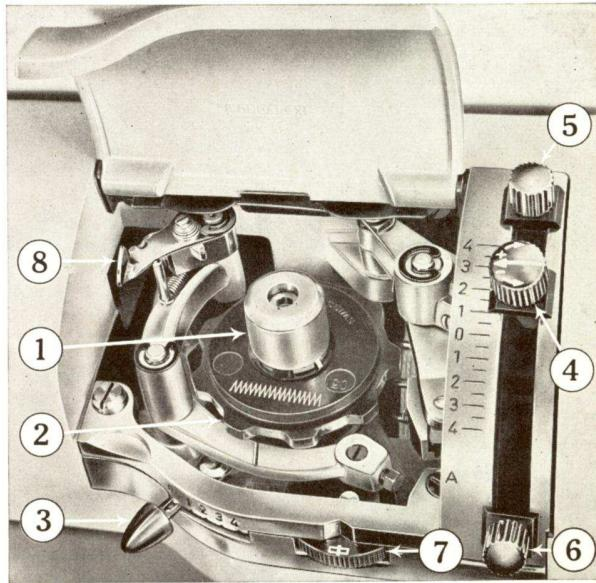

Fig. 21
For inserting an « Elna-disc », first set the stitch width lever (3) and the stitch length lever (4) at “0” (fig. 21). Then hold the simple or double « Elna-disc » between thumb and forefinger, with design on top, and place it on the Elnagraph axle 1 (fig. 23 a). The hole 3 must fit over the pin 2. On the simple « discs » this hole is visible from above. On the double « discs » this is not the case and the position of the hole is therefore marked with a white ring opposite the design. Push the « Elna-disc » down until it snaps in place (fig. 23 b).
To remove the « Elna-disc », first set the stitch width and stitch length levers at “0” (3, 4, fig. 21). By pressing on the push button 4 (fig. 23 c) at the upper end of the Elnagraph axle, the « Elna-disc » will pop up and need only be removed (fig. 23 d).
The position of the needle bar can be changed by turning the centering wheel (No. 7 of Fig. 21). The center position is shown below under "b". To move the needle bar to the left, turn the centering wheel toward the left (a) ; to move it to the right, turn the wheel to the right (c).